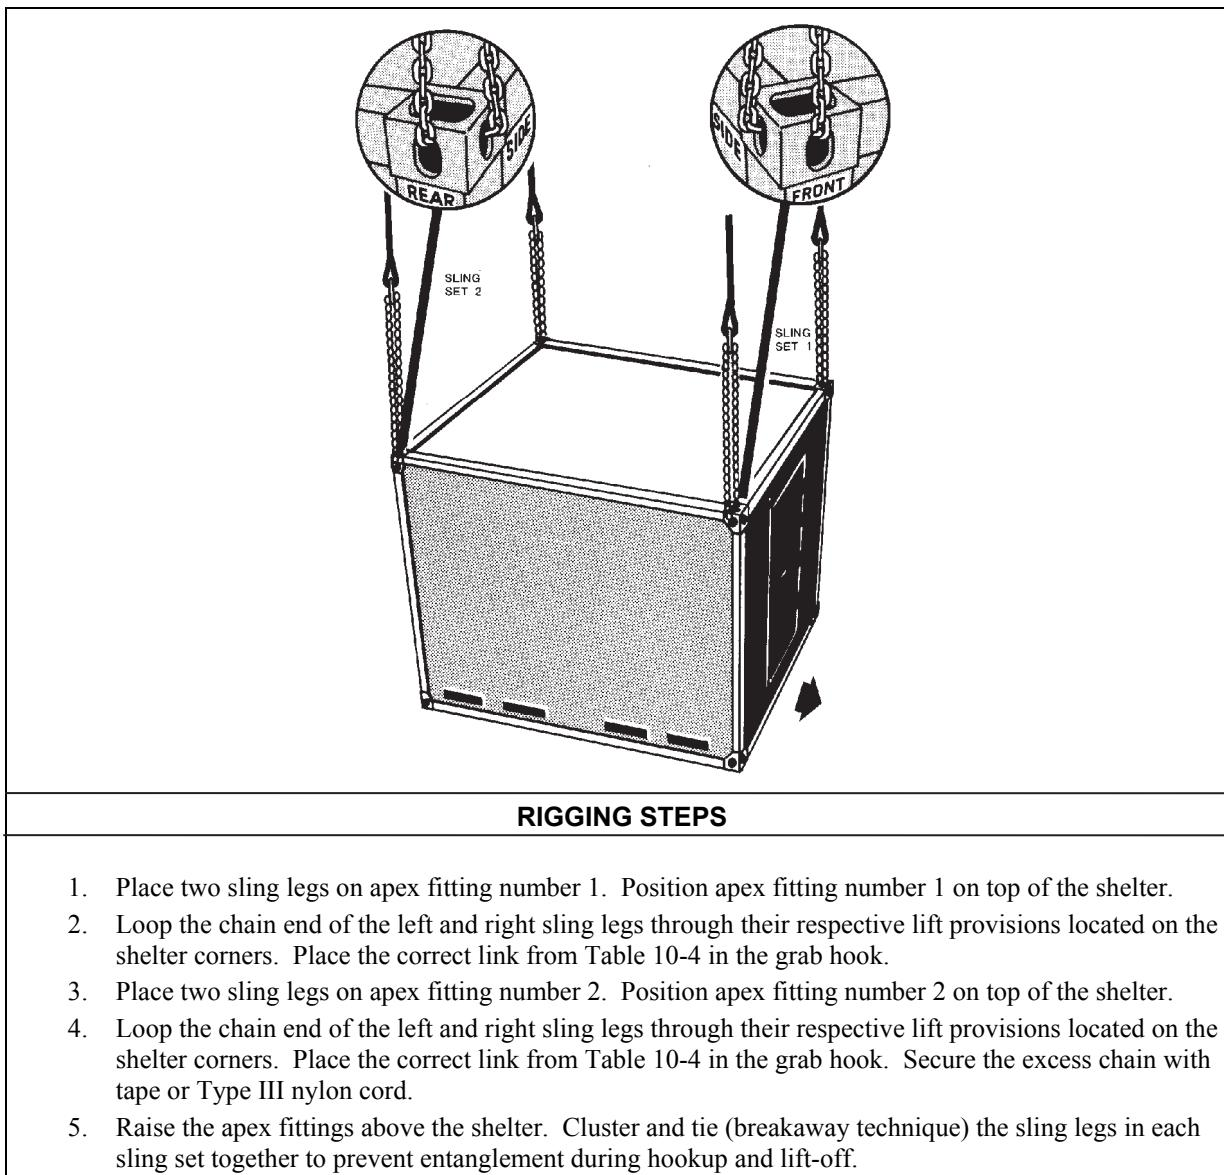

Figure 10-4. 8- x 8- x 10-Foot Shelters
- **Rigging.** Rig the load according to the steps in Figure 10-4.